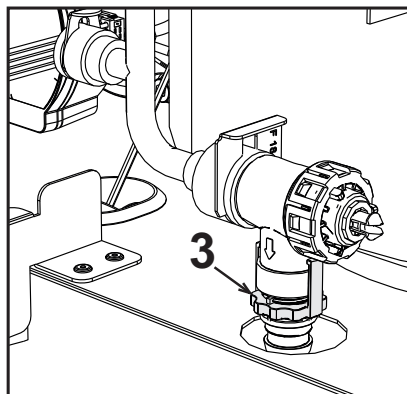

fig. 27
To drain the system, turn the ring nut (ref. 3 - fig. 27) counter-clockwise to open the cock. Do not use any tools; use hands only.